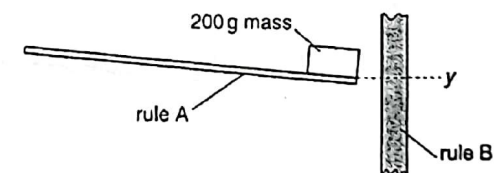

Fig. 2.2
- (iii) Place a 200 g mass on the end of rule A as shown in Fig. 2.2.